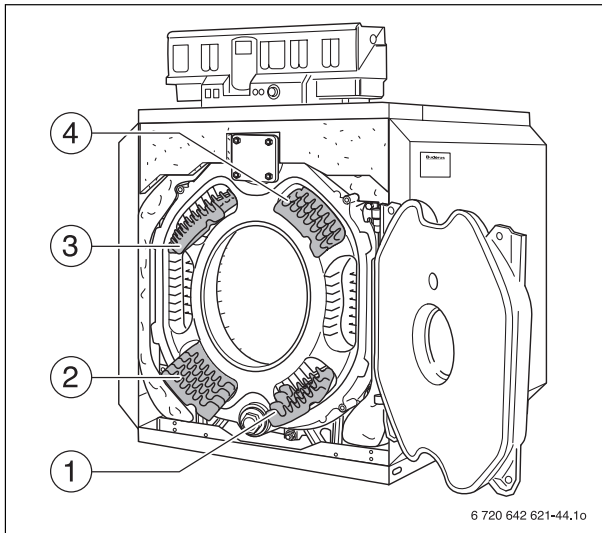

Fig. 56 Flue gas baffles, removing
- ▶ Take the flue gas baffle plates forwards out of the flue gas passages (Fig. 56, [1 – 4]).